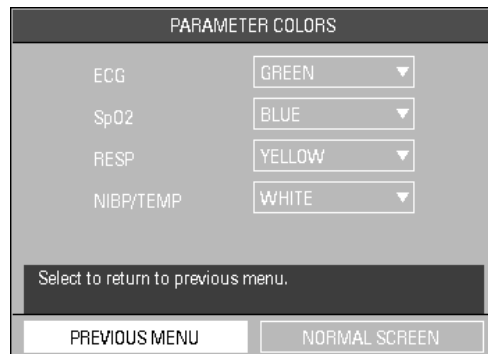

FIGURE 2-11 Parameter Colors Menu
1. Select **PARAMETER COLORS** from the **MONITOR SETUP** menu. The **PARAMETER COLORS** menu (FIGURE 2-11) is displayed. From this menu, the colors for displayed parameters can be selected. The numeric and waveform data for each parameter displays in the same color, as selected by the user. The color choices are: **GREEN, RED, YELLOW, BLUE, and WHITE**.